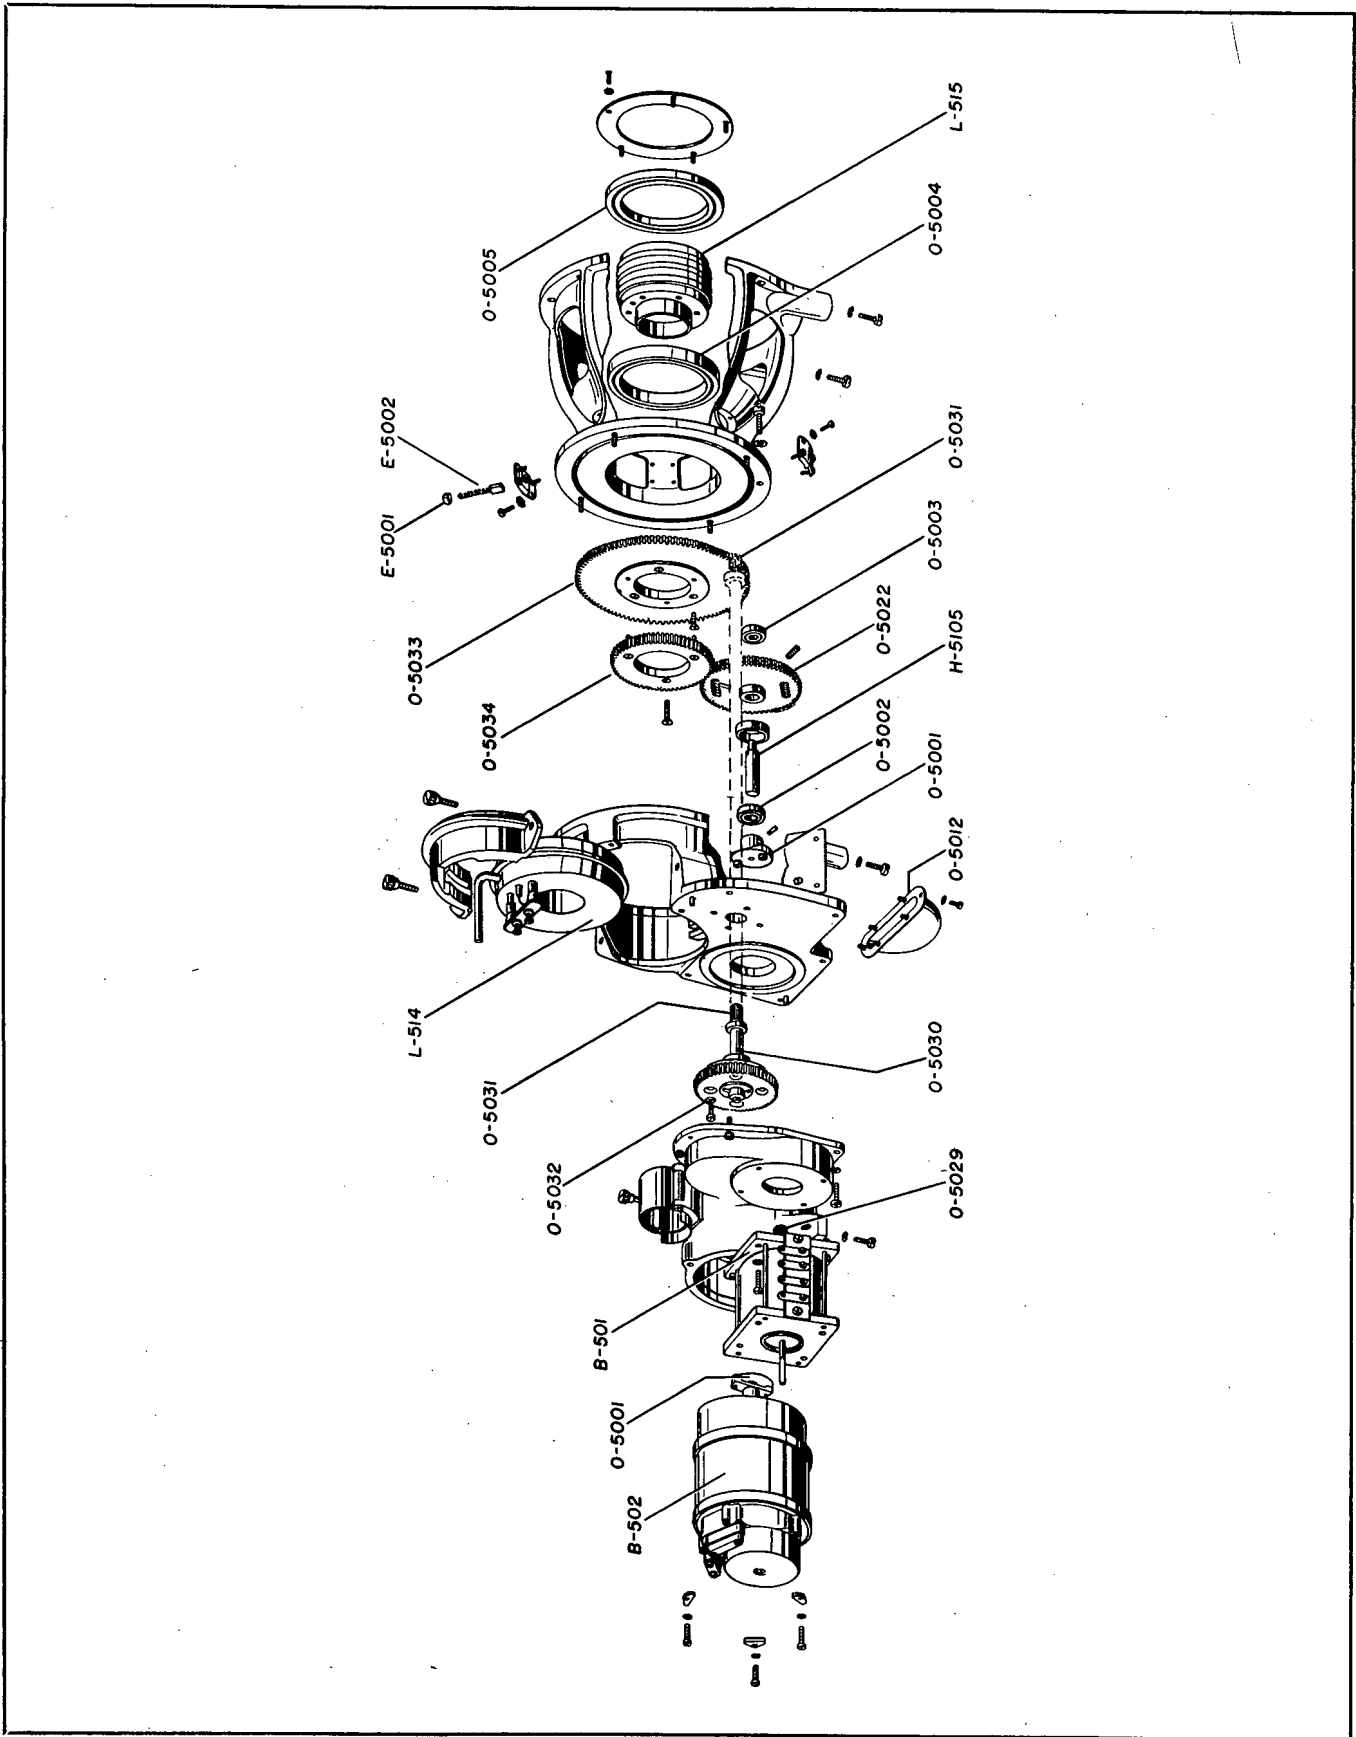

Figure 7-50. PPI Assembly, Exploded View
(1) The following items may be replaced without unbolting the tube mount assembly from the chassis. Fig. 7-50 shows an exploded view of the PPI Assembly that locates each part in it and shows how they may be removed.
(2) CHANGING YOKE COIL BRUSHES.
(a) Complete lubrication requires disassembly of the PPI assembly. The drive motor and Synchro-transformer require no lubrication. To remove any items not listed specifically in the preceding paragraphs, the following procedure which is illustrated in Fig. 7-50 should be employed.
11. Remove the three fillister head screws and clamps on the back ring of the synchro-transformer. See Fig. 7-50.
12. Slide synchro-transformer out of casting. See Fig. 7-50.
13. Unbolt drive motor from rear casting and remove drive motor and drive motor pinion. See Fig. 7-50.
14. Remove the six fillister head screws holding the rear casting to the center casting. Remove rear casting. See Fig. 7-50.
15. Remove the four binding head screws that secure the jackshaft assembly, through the holes in the web of the 79 tooth micarta gear. See Fig. 7-50.
17. Remove the plastic gear guard cover screws and remove the gear guard cover. See Fig. 7-50.
19. Turn the split synchro drive gear so that the taper pin may be driven out of the gear hub. See Fig. 7-50. Use a punch to recover taper pin.
22. Remove the four fillister head screws that bolt the front casting to the center casting. See Fig. 7-50.